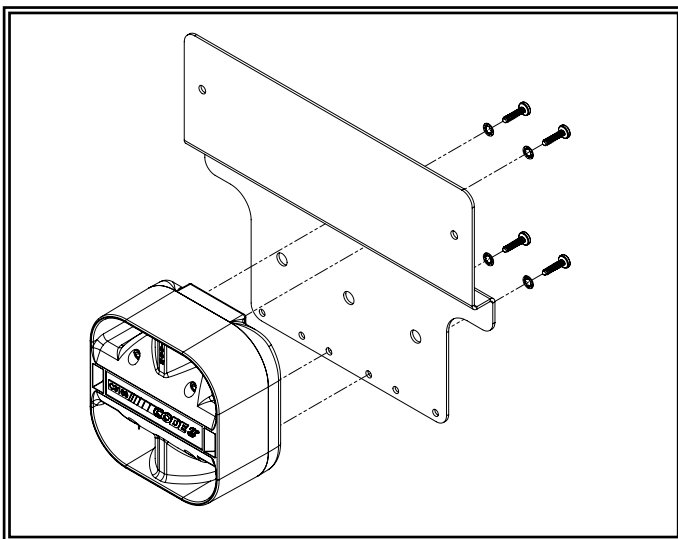
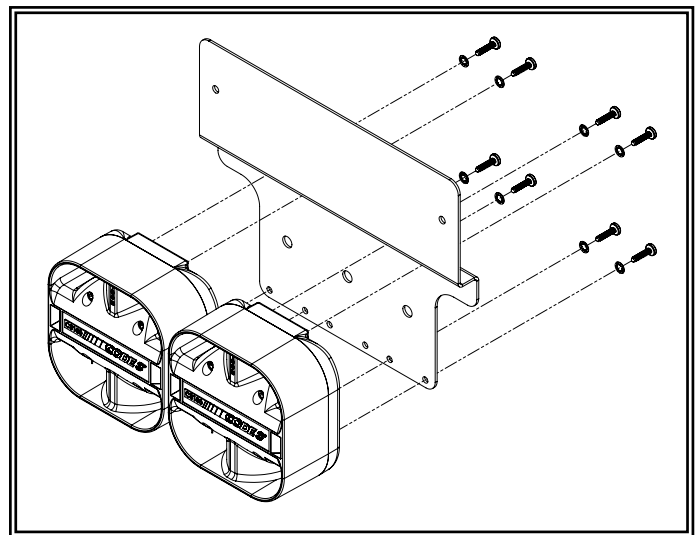

Figure 1 Single Speaker Version
Figure 2 Dual Speaker Version
**Step 1.** For a single speaker application, assemble the C3100 speaker to the mounting bracket as shown in figure 1. For a dual speaker application, assemble the C3100 speaker to the mounting plate as shown in figure 2. Use (4) of the #12 phillips head screws and star lock washers that are supplied in the #55025 hardware bags to mount each of the C3100 speakers. Make sure the "MOUNT WITH THIS END UP" "CAUTION!" label is on the top as oriented in the views in Figures 1, 2 & 3 below. Discard the remaining hardware.